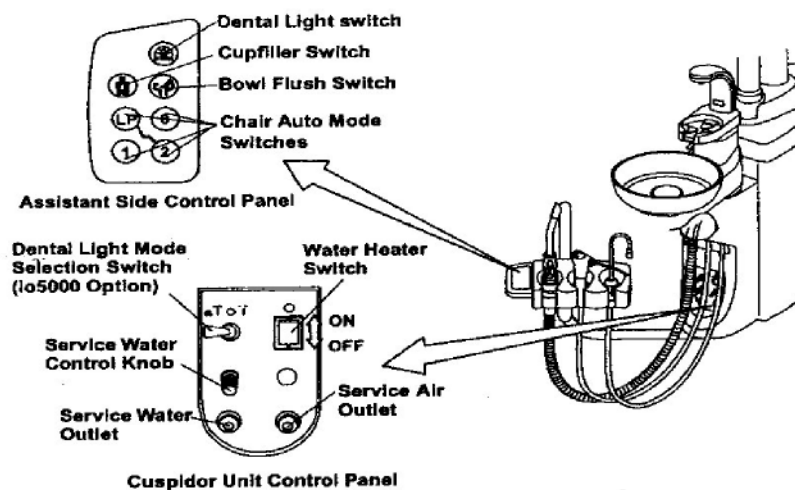

Fig.3-17 Assistant Side Control Panel and Cuspidor Unit Control Panel
B. Interrupteur de chauffe-eau (Fig.3-17) (option)
C. Prise rapide d'eau (Fig.3-17)